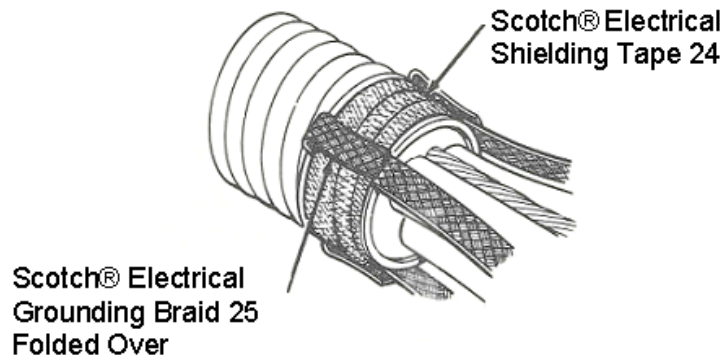

Figure 4
- At ends of exposed armor, wrap several layers of Scotch® Electrical Shielding Tape 24 over the Scotch® Electrical Grounding Braid 25 filling a valley in the corrugated armor. Tie off end of Scotch® Tape 24. (Figure 4)
- Fold ends of braids back over the Scotch® Tape 24. (Figure 4)